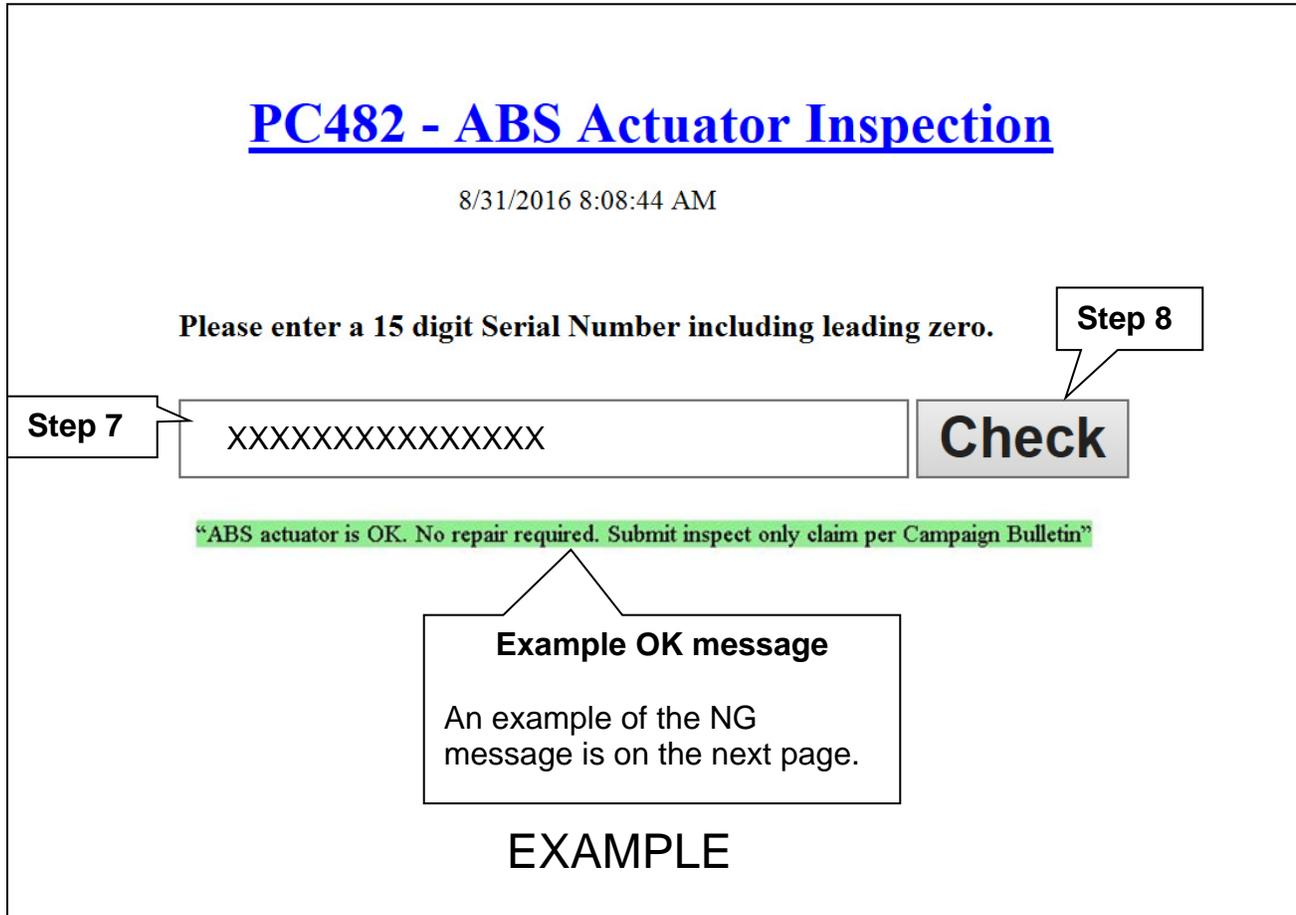

Figure 5A
- If your ABS control unit (ABS Actuator) is OK, the **OK** message shown in Figure 5A will display.
- The screen in Figure 5A showing the 15 digit serial number and the **OK** message, **MUST** be printed and attached to the repair order for warranty documentation.